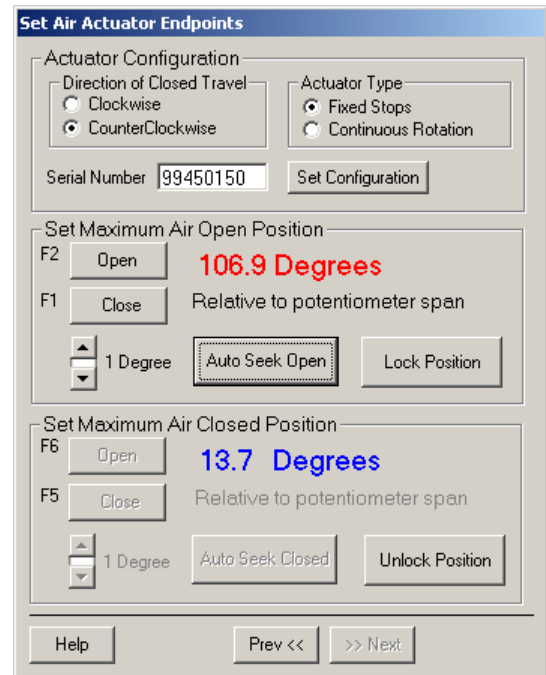

Fig. 12. Move actuator five degrees off the mechanical open stop.
- Move the actuator five (5) degrees off the mechanical open stop. See Fig.12.